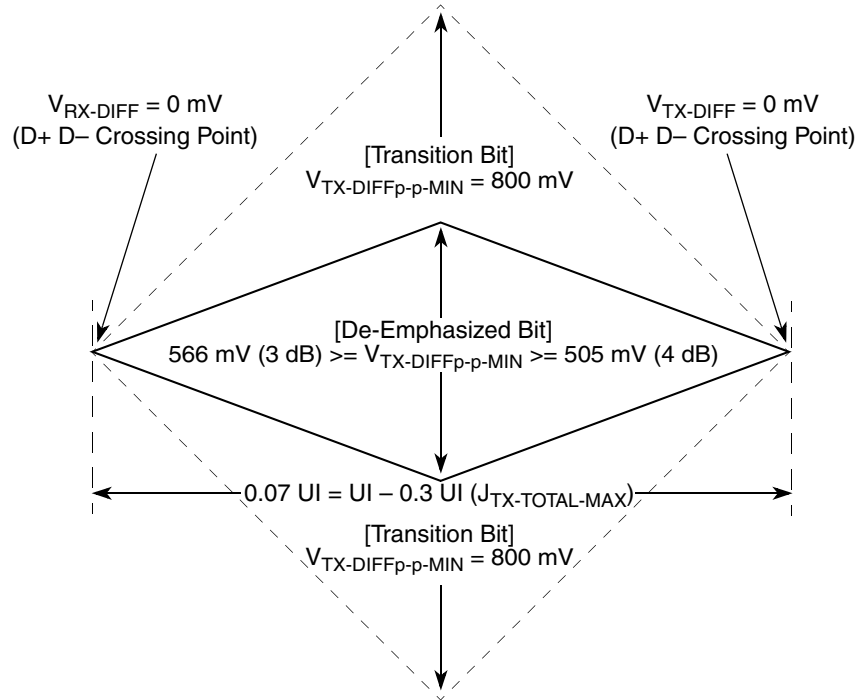
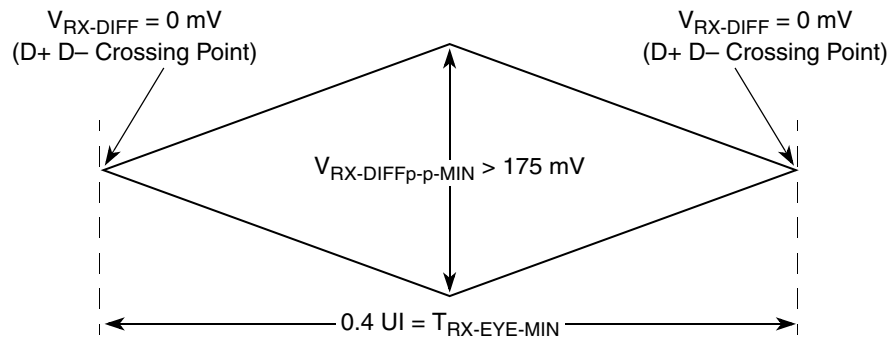
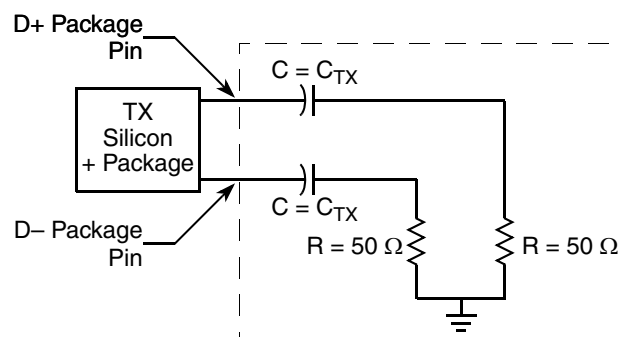

Figure 52. Minimum Transmitter Timing and Voltage Output Compliance Specifications
Figure 53. Minimum Receiver Eye Timing and Voltage Compliance Specification
Figure 54. Compliance Test/Measurement Load
2. Specified at the measurement point into a timing and voltage compliance test load as shown in Figure 54 and measured over any 250 consecutive TX UIs. (Also refer to the transmitter compliance eye diagram shown in Figure 52.)
4. The transmitter input impedance shall result in a differential return loss greater than or equal to 12 dB and a common mode return loss greater than or equal to 6 dB over a frequency range of 50 MHz to 1.25 GHz. This input impedance requirement applies to all valid input levels. The reference impedance for return loss measurements is 50 Ω to ground for both the D+ and D- line (that is, as measured by a vector network analyzer with 50- Ω probes—see Figure 54.) Note that the series capacitors C_{TX} is optional for the return loss measurement.
5. Measured between 20%–80% at transmitter package pins into a test load as shown in Figure 54 for both $V_{\text{TX-D+}}$ and $V_{\text{TX-D-}}$.
The TX eye diagram in Figure 52 is specified using the passive compliance/test measurement load (see Figure 54) in place of any real PCI Express interconnect +RX component.
2. Specified at the measurement point and measured over any 250 consecutive UIs. The test load in Figure 54 should be used as the RX device when taking measurements (also refer to the receiver compliance eye diagram shown in Figure 53). If the clocks to the RX and TX are not derived from the same reference clock, the TX UI recovered from 3500 consecutive UI must be used as a reference for the eye diagram.
4. The receiver input impedance shall result in a differential return loss greater than or equal to 15 dB with the D+ line biased to 300 mV and the D– line biased to –300 mV and a common mode return loss greater than or equal to 6 dB (no bias required) over a frequency range of 50 MHz to 1.25 GHz. This input impedance requirement applies to all valid input levels. The reference impedance for return loss measurements for is 50 Ω to ground for both the D+ and D– line (that is, as measured by a vector network analyzer with 50-Ω probes, see Figure 54). Note that the series capacitors C_{TX} is optional for the return loss measurement.
The RX eye diagram in Figure 53 is specified using the passive compliance/test measurement load (see Figure 54) in place of any real PCI Express RX component.
In general, the minimum receiver eye diagram measured with the compliance/test measurement load (see Figure 54) will be larger than the minimum receiver eye diagram measured over a range of systems at the input receiver of any real PCI Express component. The degraded eye diagram at the input receiver is due to traces internal to the package as well as silicon parasitic characteristics which cause the real PCI Express component to vary in impedance from the compliance/test measurement load. The input receiver eye diagram is implementation specific and is not specified. RX component designer should provide additional margin to adequately compensate for the degraded minimum receiver eye diagram (shown in Figure 53) expected at the input receiver based on some adequate combination of system simulations and the return loss measured looking into the RX package and silicon. The RX eye diagram must be aligned in time using the jitter median to locate the center of the eye diagram.
The reference impedance for return loss measurements is $50\ \Omega$ to ground for both the D+ and D- line (that is, as measured by a vector network analyzer with $50\text{-}\Omega$ probes, see Figure 53). Note that the series capacitors, CTX, are optional for the return loss measurement.
The AC timing and voltage parameters must be verified at the measurement point, as specified within 0.2 inches of the package pins, into a test/measurement load shown in Figure 54.